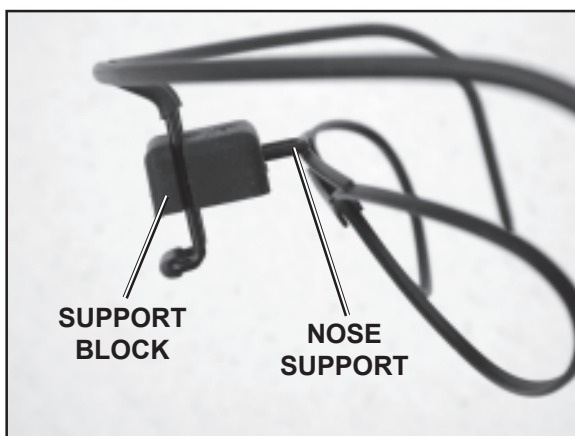

FIGURE 3
- b) The nose support of the eyeglass frames can be moved in or out of the support block to set the proper distance from the eyes. See FIGURE 3. This adjustment is limited. Do not over extend this adjustment. Leave at least 1/4" (6 mm) of the nose support within the support block.